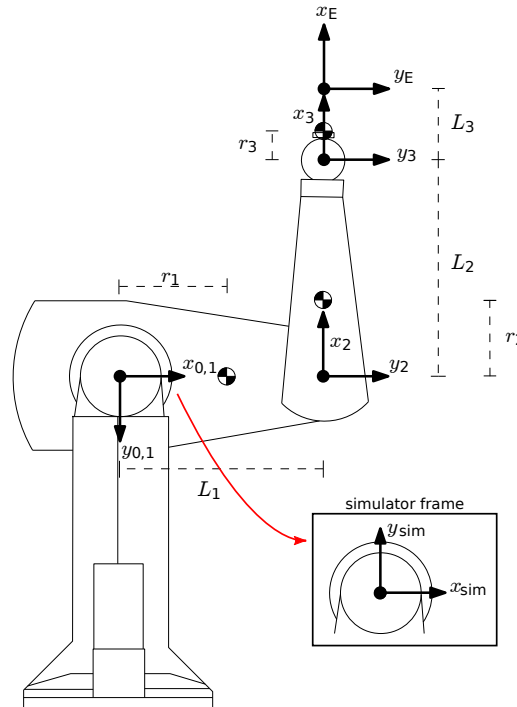

Figure 1: RRR Puma in zero configuration.
This assignment deals with the RRR planar manipulator shown in Figure 1. The joints of this manipulator correspond to the joints 2, 3, and 5 of a PUMA 560. You will implement the methods of the class FORWARDKINEMATICS PUMA2D in the provided file *forwardkinematics.cpp*.
- [10 Points] Adjust kp and kv so that the trajectory is tracked well and the joint torques don't exceed the limits. Make graphs showing τ , q , x , x_d , and the position error $e = x - x_d$ over time t of one circle. How does the graph for the error $x - x_d$ change for different values of kp ? Make another graph showing x , x_d in the 2D plane. Use a plotting tool of your choice. Hints: `gv.x` contains three values: the current x -position, the y -position and the orientation α of the end-effector. Note that the y -axis in the simulator is orientated in the opposite direction as the one in figure1. You should first move the robot close to $x(t_{start})$ by executing `proj1Control()`